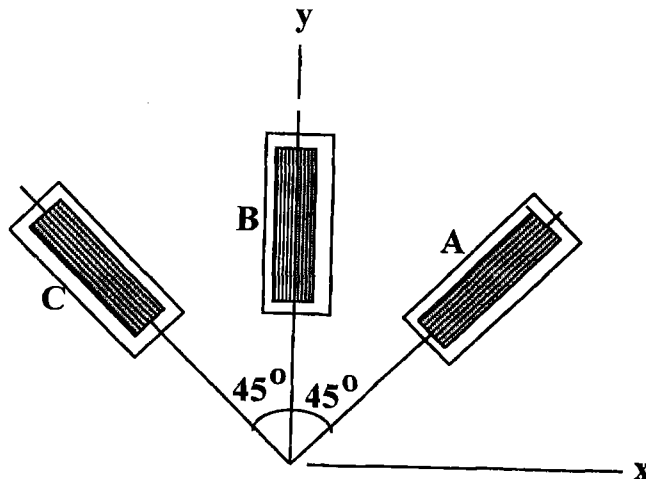

Figure 8 / Rajah 8
6. In a test on the wall of a tank, the strain rosette arrangement is given in Figure 8 with readings as follows: Gauge A, 900×10^{-6} ; Gauge B, 160×10^{-6} ; and Gauge C, 100×10^{-6} .